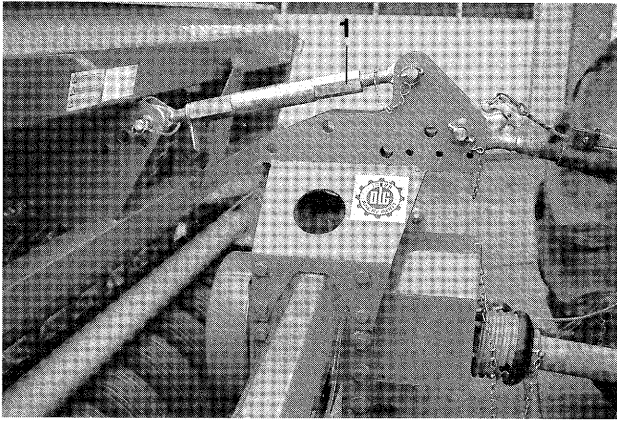
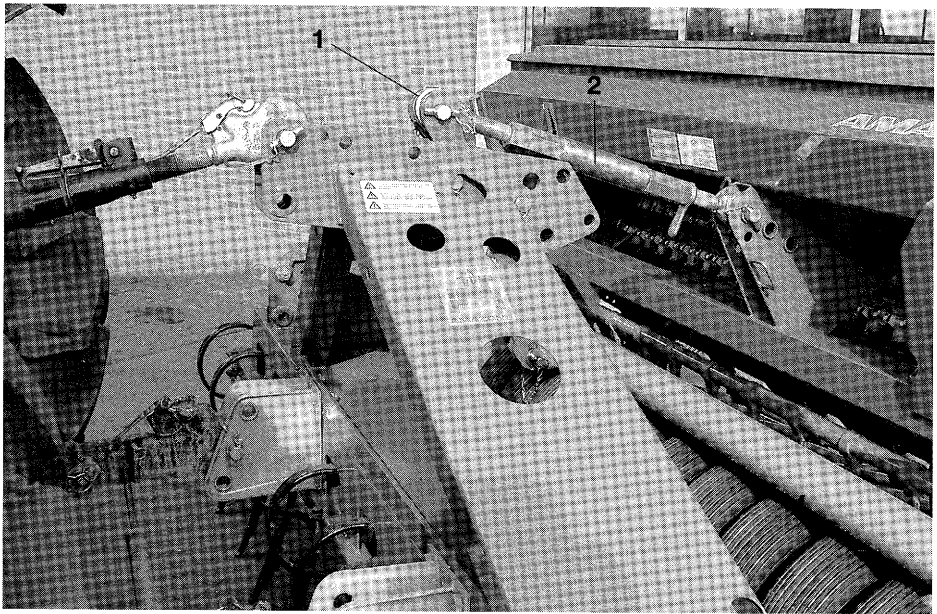
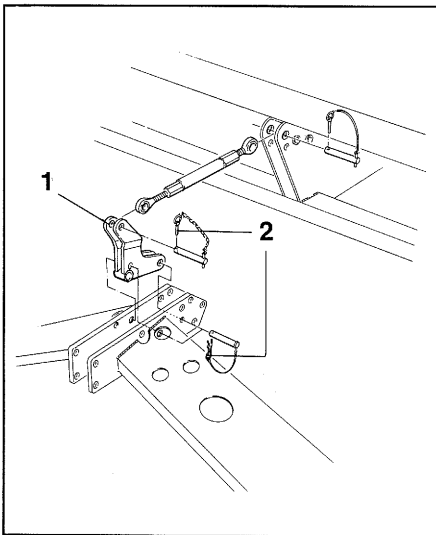

Fig. 23
Fig.30
Fig.31
According to the execution AMAZONE soil tillage implements may be supplied with two different top link mounting points. Both types are shown in Fig. 23 and in Fig. 30.
-  In the execution as shown in Fig. 30 the additional kit with a top link tower extension (Fig. 30/1) is needed for coupling the pack top seed drill. Fitting the top link tower extension is necessary for attaching the long top link (Fig. 30/2). Fitting is done according to para. 2.4. The top link tower extension is not required for soil tillage implements with a top link mounting point as shown in Fig. 23.
-  Connect the pack top seed drill to the soil tillage implement by the top link (Fig. 23/1) and secure the fixing pins with lynch pins.
Depending on the execution AMAZONE soil tillage implements can be equipped with two different top link mounting points. Both executions are illustrated in Fig. 23 and Fig. 30.
For coupling the pack top seed drill to the execution as shown under Fig. 30 the additional fitting with a top link mounting tower (Fig. 30/1) is necessary. this top link mounting tower is not necessary if the soil tillage implements are equipped with a top link mounting point as shown in Fig. 23.
The mounting of the top link mounting tower (Fig. 31/1) is required for fixing the long top link (Fig. 30/2).
Secure the fixing pin (Fig. 31/2) by clip pins or spring pins.
When changing the working depth pin position always hold the setting pin (Fig. 31/1) only in such a way that you would never get your hand between the pin and the carrying arm.